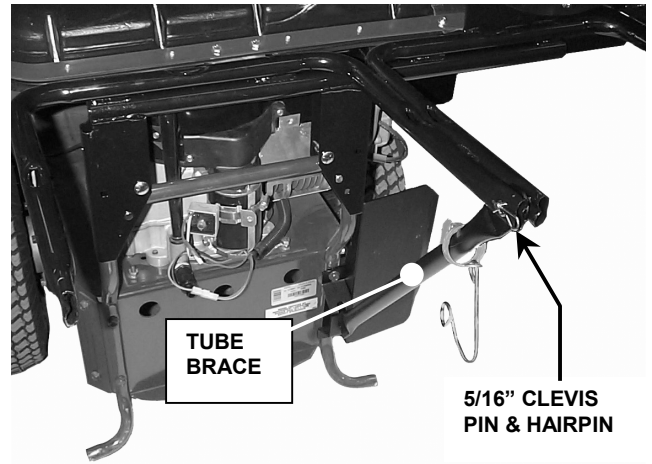

FIGURE 1.10
- C. Place slotted end of brace tube into catcher support bracket. Align holes in catcher frame and tube. Insert 5/16" diameter clevis pin and secure with hairpin. See Figure 1.10.